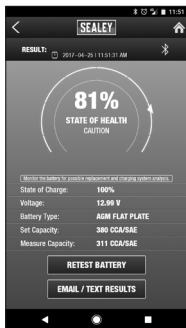

fig.12
7.1.9. The test report is displayed. (fig.12) User may select “RETEST BATTERY”